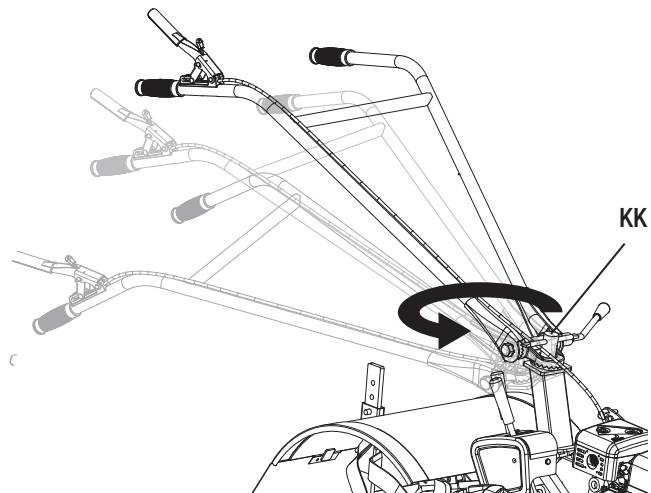

Figure 1-15
- To adjust the handle axis point just loosen the left/right handle lock (KK) and rotate the handle left or right to the required axis point. Then tighten the left/right handle lock (KK). See Figure 1-15.